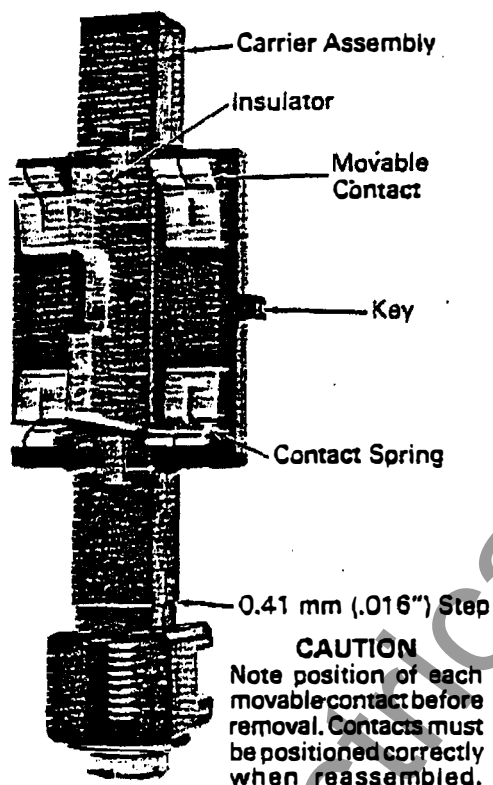

Fig.9 - Interlock Movable Contact Assembly
Each movable contact must be positioned properly and not inverted because this could cause malfunction of the contactor. Carefully note the position of each contact before removal. The location and attitude of all parts with respect to the molded key on the contact carrier must be correct. Refer to Fig. 9.
1. Hold contact carrier, Fig. 9, in one hand and tilt forward the movable contact to be removed.
10. With the contactor in de-energized position, ensure that 0.41 mm (.016") step, Fig. 9, on movable contact carrier molding is flush with the end of the housing within 0.81 mm (.032"). If adjustment is required, adjust by bending the steel interlock operating lever.